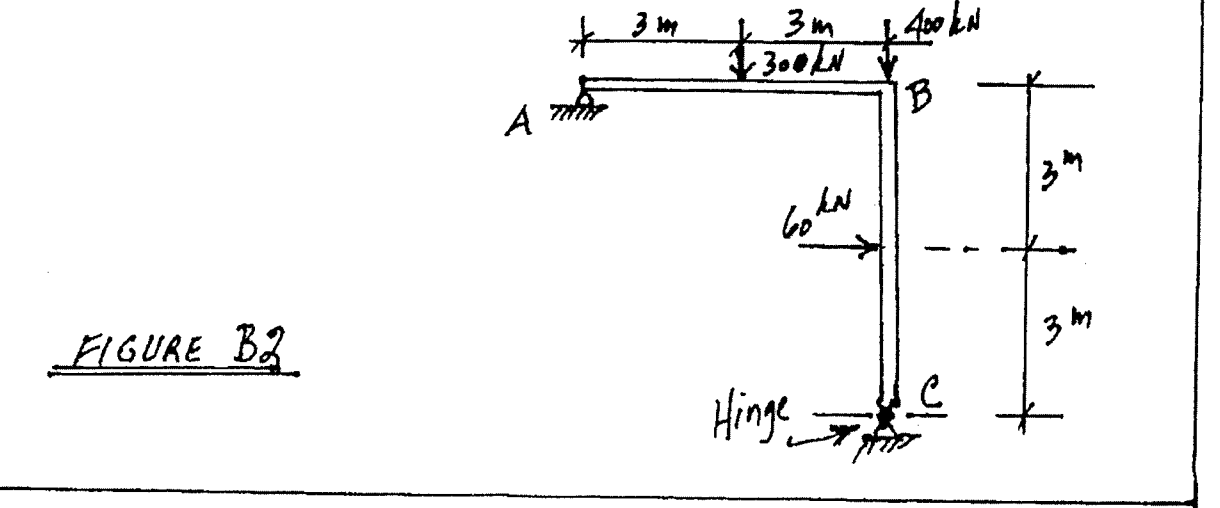

FIGURE B2
- B2. Figure B2 shows the profile of a determinate reinforced concrete frame, ABC. Design a rectangular cross-section and the reinforcing for flexure and shear for beam AB. Show the layout of the reinforcement. Use $f_c' = 35$ MPa and $f_y = 400$ MPa.
- B3. For the determinate reinforced concrete frame, shown loaded in Figure B2, design a square cross-section and the corresponding reinforcing for the column BC. Assume the column is short, pinned at C and monolithic at B. Use $f_c' = 35$ MPa and $f_y = 400$ MPa.